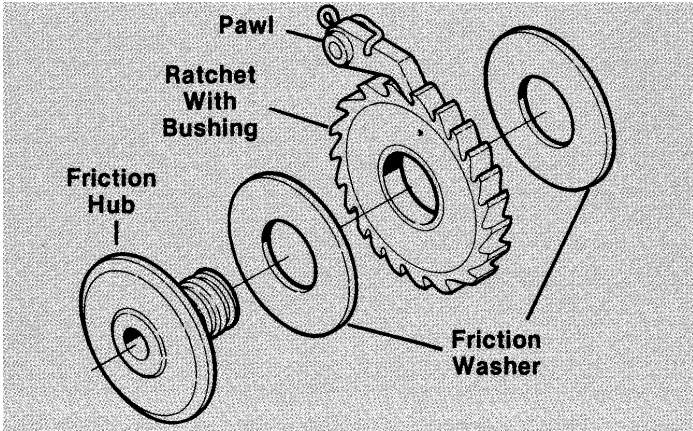

FIGURE 10. Brake Assembly
**Brake.** Assemble the brake components per Figure 10. Check the ratchet to be sure the bushing is flush with or below the surface on both sides. When installed, the teeth must face as shown in Figure 10 and engage the pawl. Do not lubricate. The brake operates dry.